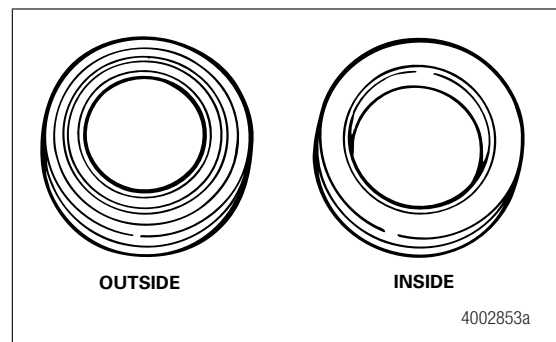
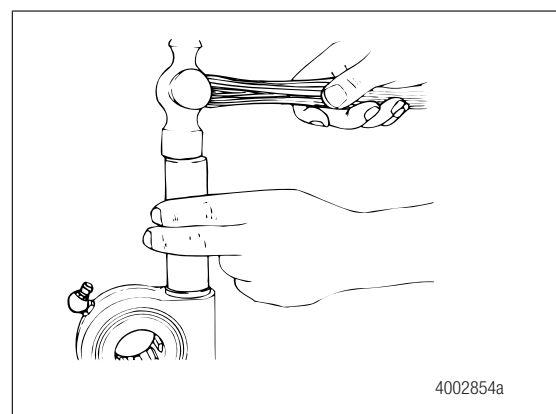

Figure 5.1
Figure 5.2
4. Place the seal directly over the worm bore with the seal lips outside of the bore and the metal retainer inside of the bore. Figure 5.1. Use a hammer and 1-3/16-inch (30.2 mm) diameter seal driver to install the seal straight into the bore. Figure 5.2. Do not hit the seal after it reaches the bottom of the bore. Damage to the seal will result.